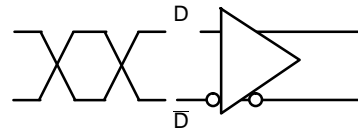

Figure 11. Differential Inputs Driven Differentially
**DIFFERENTIAL INPUTS DRIVEN DIFFERENTIALLY** (Figures 11 and 13)